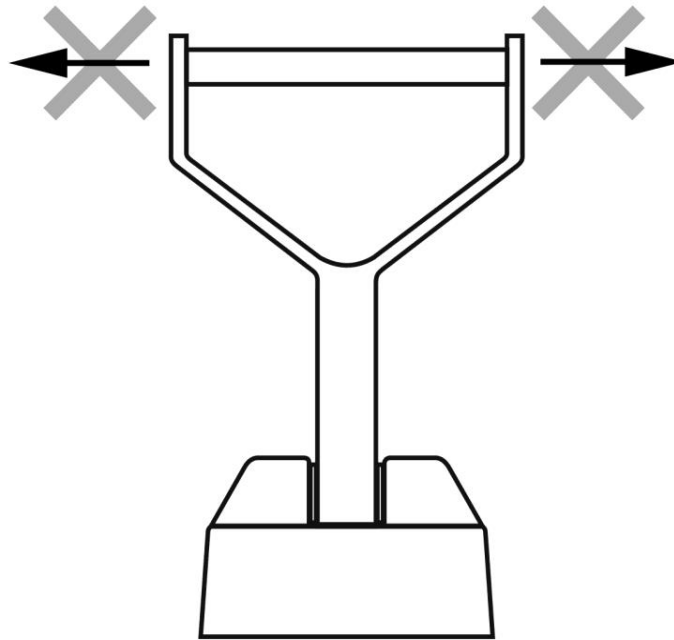

Figure 2.
- The lifter may not be subjected to lateral traction (Figure 2).